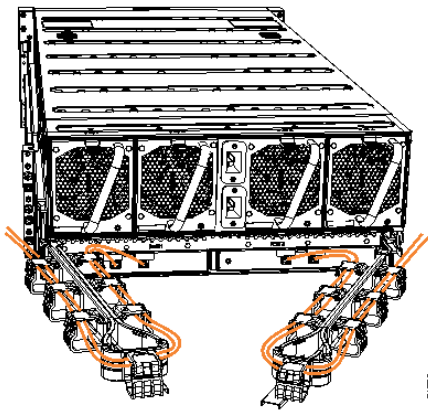

Figure 180. Example of SAS cables routed through the cable management arms
8. Route the SAS cables through the cable management arms, as shown in Figure 180 on page 208.